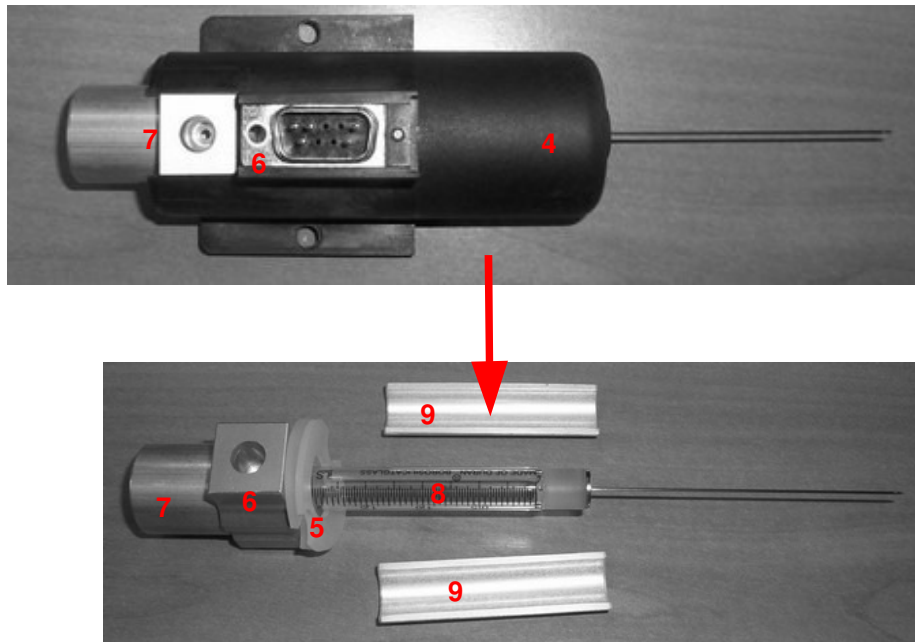

Figure 111: Syringe warmer assembly disassembling_1
3. Extract the syringe barrel (number 8 in **Figure 111**), with the insulating gasket (number 5 in **Figure 111**), the syringe holder (number 6 in **Figure 111**), the upper spacer (number 7 in **Figure 111**) and the lower spacers (number 9 in **Figure 111**, not present in the 5ml syringe) from the heating body (number 4 in **Figure 111**). This operation is shown below:
3. Extract the syringe barrel (number 8 in **Figure 111**), with the insulating gasket (number 5 in **Figure 111**), the syringe holder (number 6 in **Figure 111**), the upper spacer (number 7 in **Figure 111**) and the lower spacers (number 9 in **Figure 111**) from the heating body (number 4 in **Figure 111**).
16. Extract the syringe barrel (number 8 in **Figure 111**), with the insulating gasket (number 5 in **Figure 111**), the syringe holder (number 6 in **Figure 111**), the upper spacer (number 7 in **Figure 111**) and the lower spacers (number 9 in **Figure 111**) from the heating body (number 4 in **Figure 111**).